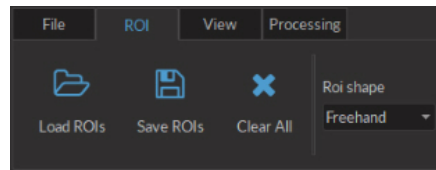

Figure 4.13: ROI Tab
2. The **ROI tab** (Fig. 4.13) is used to save/load data relating to regions of interest drawn on an image.